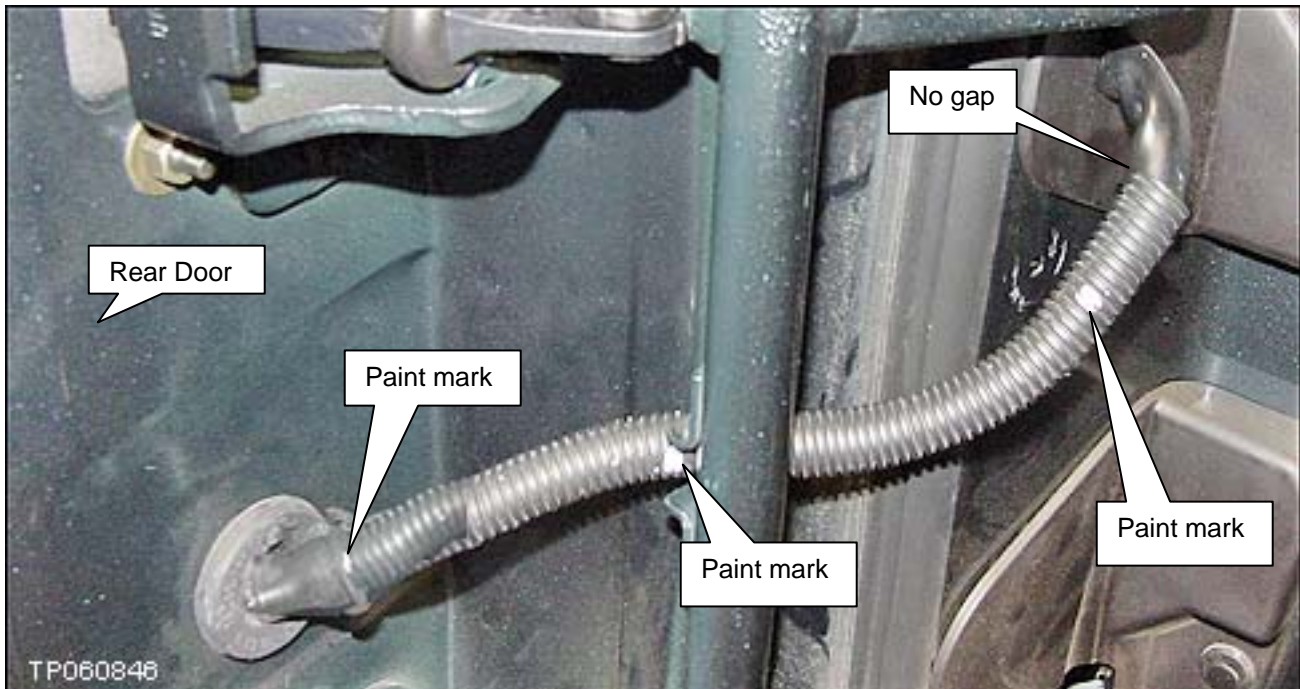

Figure B6
- Slide the corrugated tube inside the door grommet about 10 mm. The second paint mark should just be visible (see Figure B6). You may need to roll the grommet back and then forward over the tube.
- The paint marks must be facing away from the door/body as shown in Figure B6.